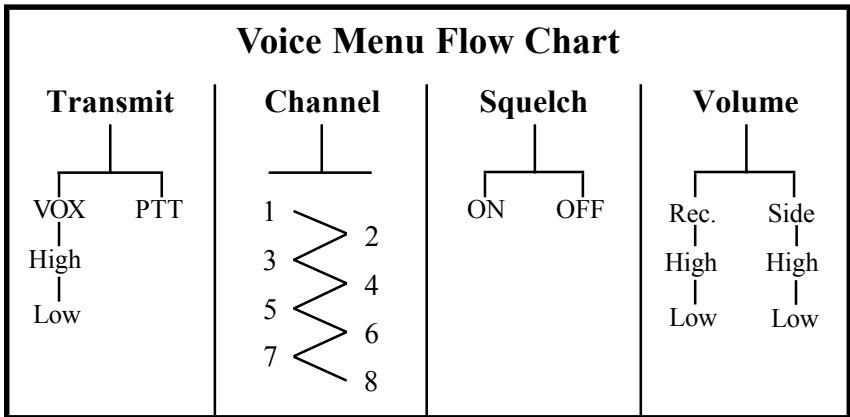

Figure 3
**3.3.1 Voice Adjustment Mode:** The SSB-1001B and SSB-2010 have a unique feature that allows you to adjust the unit electronically either out of or in the water. If you depress the PTT button two times within one second, the transceiver enters a "Voice Adjustment Mode." You will hear in your earphones a voice offering you the following choices: *"Transmit, Channel, Squelch, Volume."* This message will continue until you make a selection by depressing the PTT button once when you hear your desired option. When you have completed your adjustments, you have the option to double- or triple-depress the PTT button quickly. A double click will take you directly out of the "Voice Adjustment Mode." Your transceiver will be in the receive mode. A triple click will tell the transceiver to play back all settings in your earphone. You can triple-click at any time if you want to know all your settings (Figure 3).